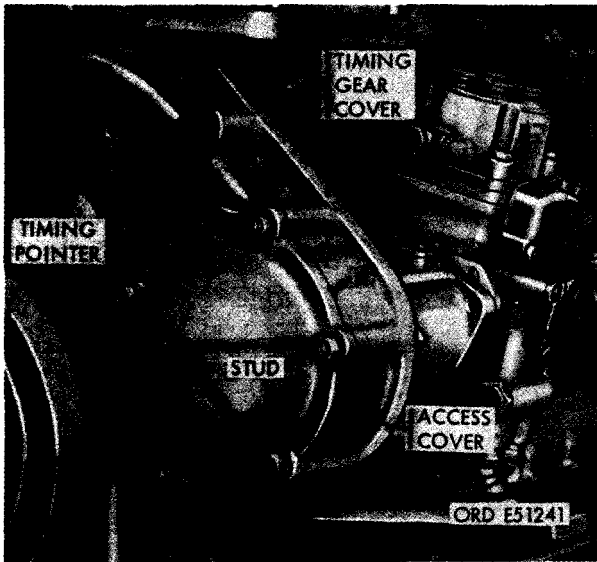

FIGURE 502. INSTALLING FUEL INJECTION PUMP DRIVEN GEAR ACCESS COVER.
a. Install Injection Pump Driven Gear Access Cover. Figure 502. (A) Position new driven gear access cover gasket on timing gear cover, with stud and cap screw holes alined. (B) Position driven gear access cover over gasket. (C) Install three 3/8- inch lock washers and 3/8- inch plain nuts on studs. (D) Install two 3/8 x 3-3/4 cap screws, 3/8- inch lock washers, and 3/8- inch plain nuts to secure cover.